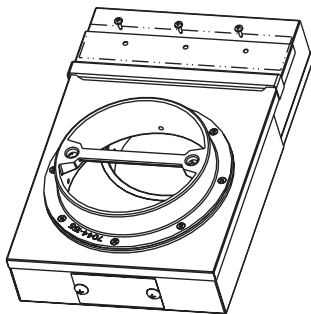

Figure 19.3
4. Cut the gasket to the proper length and slide in between the upper and lower chambers centered on the screw holes. Attach the upper and lower chambers with screws provided (**Figure 19.3 on page 19**).